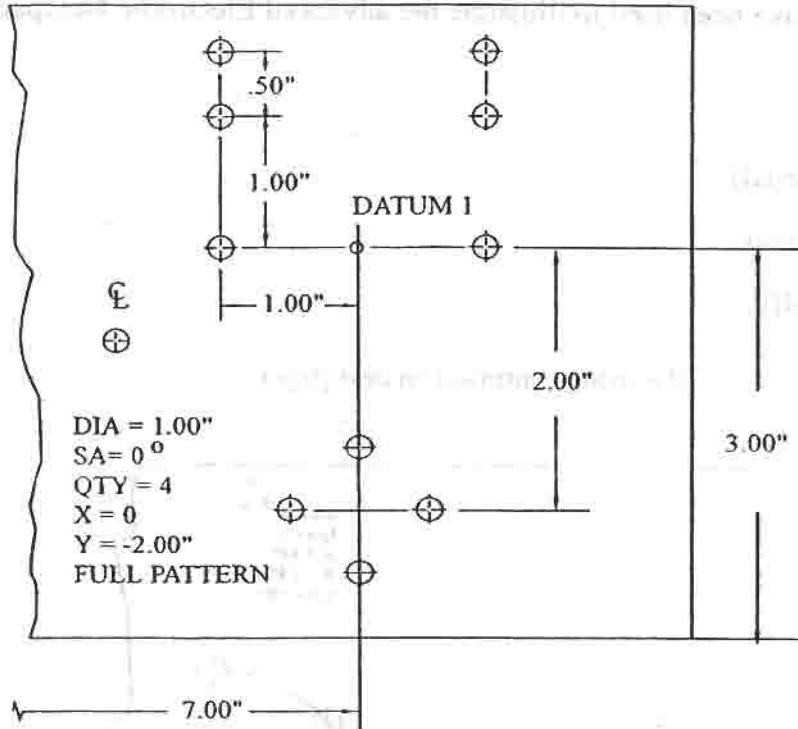

Figure 1b
9. Recall the previous three lines of dimensions to do the second set of three holes from figure 1b.